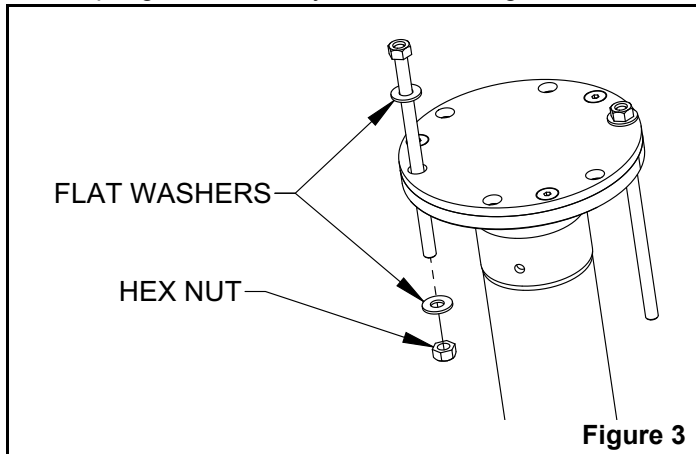

Figure 3
2. Insert the spring box tool (MBW #20260) rods into the spring box assembly as shown in Figure 3.